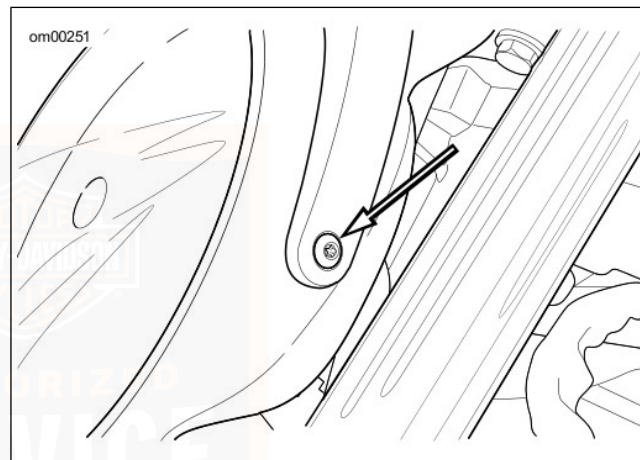

Figure 48. Headlamp Alignment Screw
1. See Figure 48. Loosen screws slightly so headlamp is still snug.